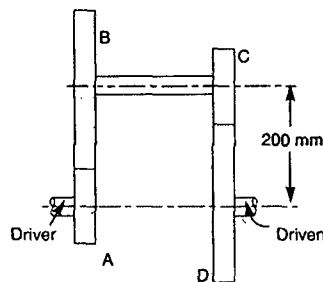

Figure 5
ii) A reverted gear train, shown in Fig.5, has a speed ratio of 16. The module of gears A and B is 4 mm and of gears C and D is 2 mm. The centre distance between the shafts is 200 mm. Calculate suitable numbers of teeth for the gears. Assume speed ratio between A-B to be same as C-D. (8)